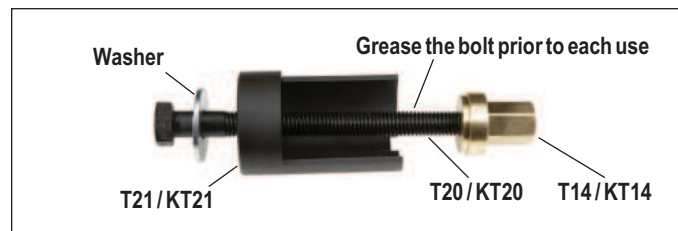

Figure 74 – Short Guide Pin Removal Tool
5.6.16 Use the tool combination shown in Figures 74 and 75 (comprising T14, T20, T21, and a washer) to remove the bushing (6). Screw nut (T14) onto the assembly by hand, then tighten the bolt (T20) using a box end wrench to draw out the bushing. Discard the removed bushing, and verify that the bore is clean by wiping with a shop cloth.